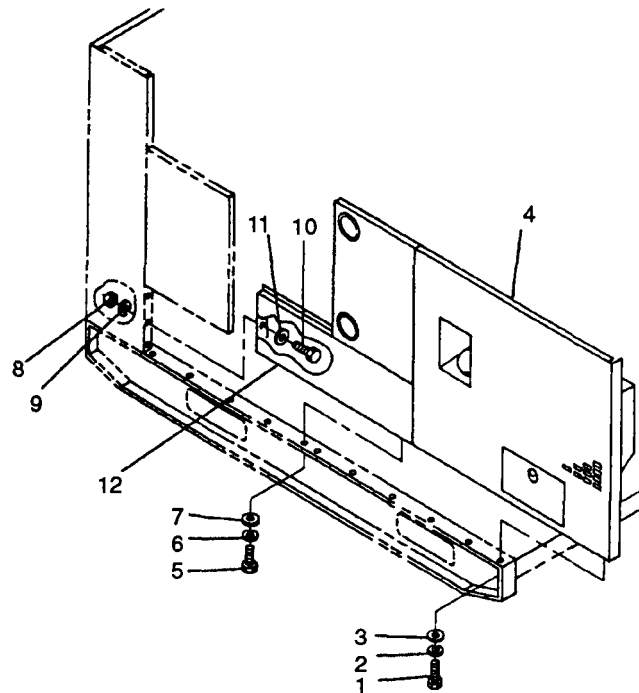
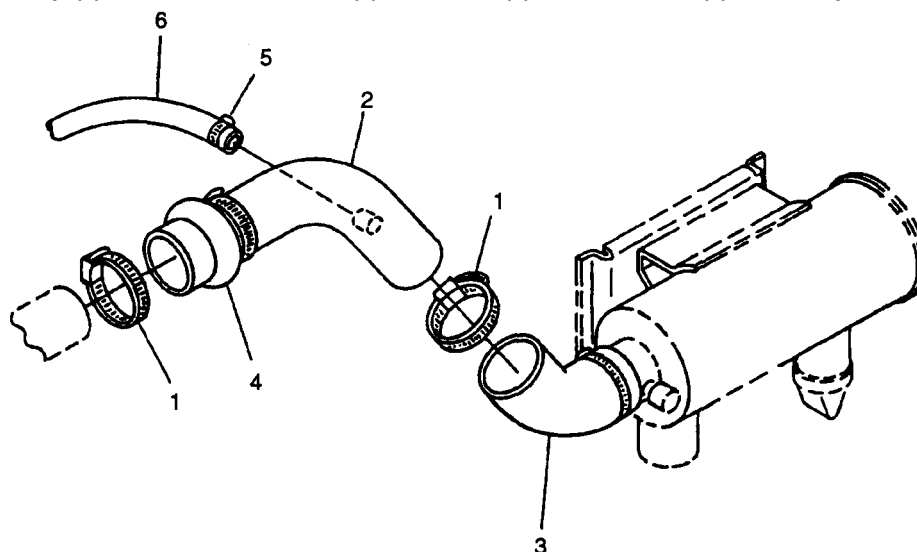
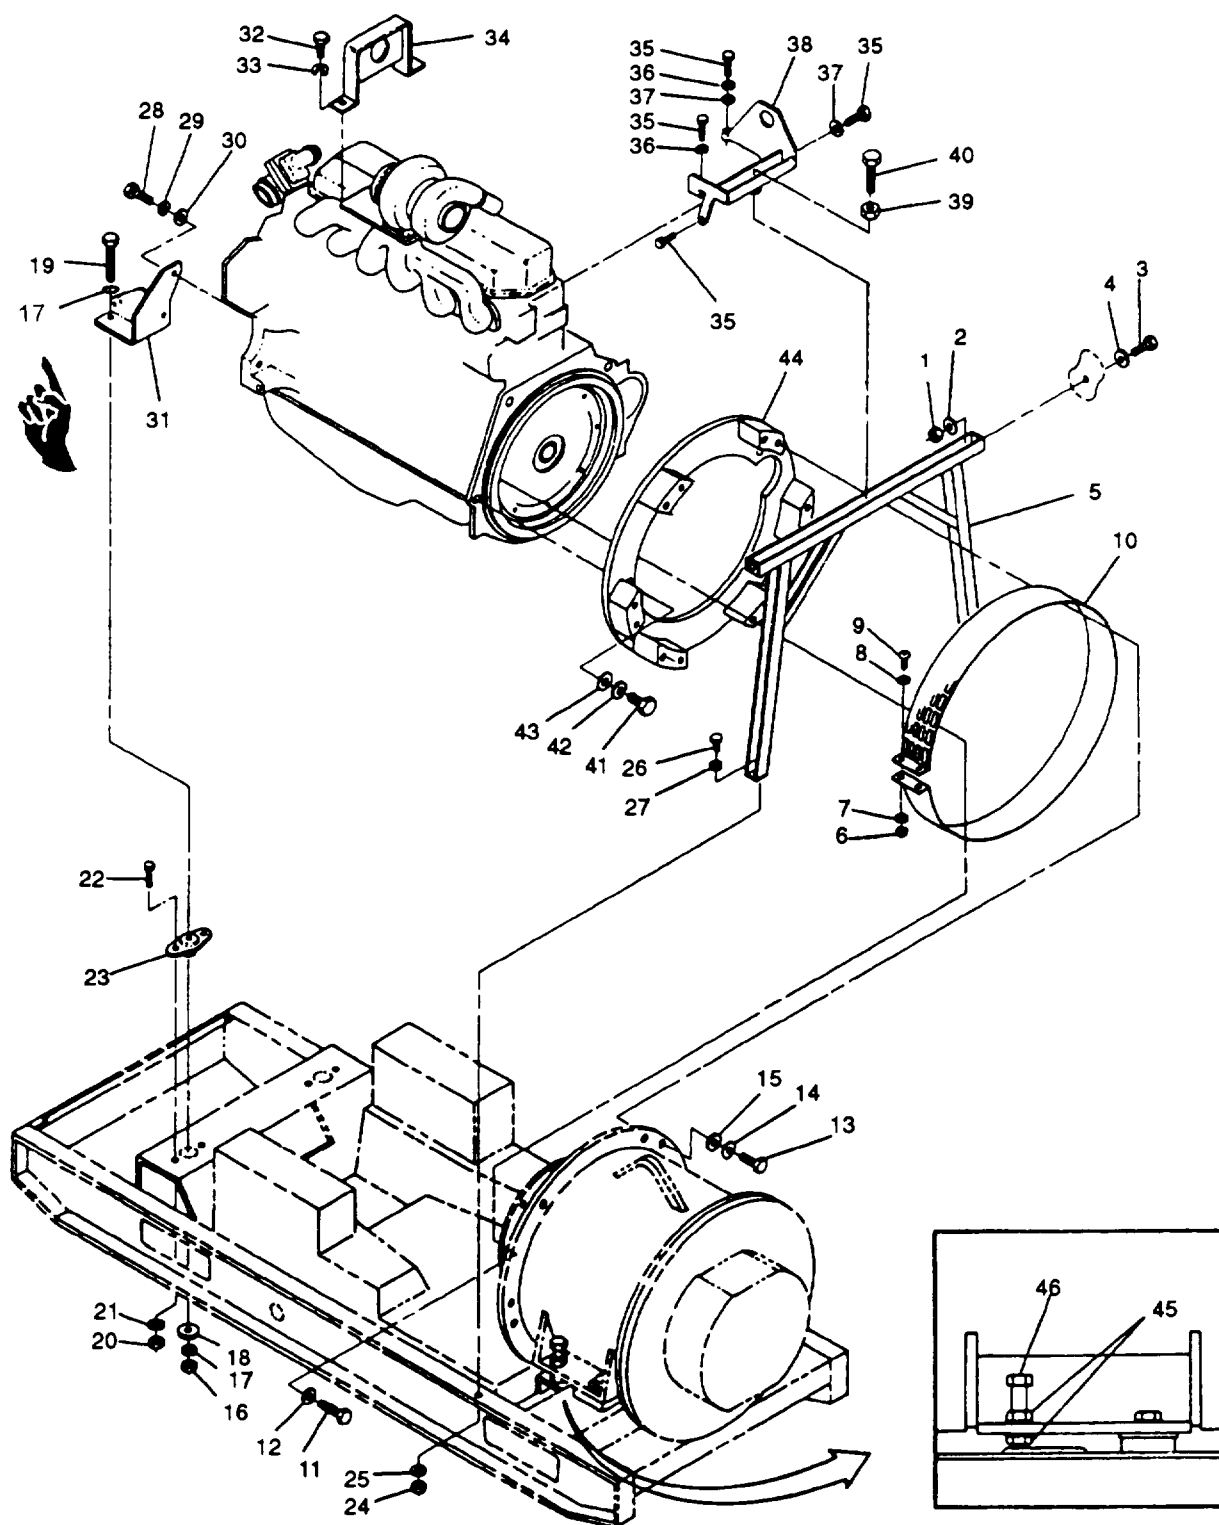

FIGURE 3-8. Left Side Housing Panels
FIGURE 3-9. Air Cleaner Hose and Tube Assembly
FIGURE 3-14. Engine Assembly Removal
- ad. Remove bolts (1, FIGURE 3-8), lockwashers (2), and washers (3) securing left rear side panel (4) to skid base.
- ae. Remove nuts (8), lockwashers (6) and (9), washers (7) and (11), and bolts (5) and (10) securing lower left side panel (12) to front housing and skid base.
- af. Remove nuts (1, FIGURE 3-14), lockwashers (2), bolts (3), and washers (4) securing frame (5) to rear housing side panels. With aid of an assistant, remove left rear side panel (4, FIGURE 3-8) and lower left side panel (12) as an assembly.
- ag. Loosen clamps (1, FIGURE 3-9) securing tube (2) to hose (3) and hump hose (4) to turbocharger.
- ah. Loosen clamp (5) and disconnect hose (6) from tube (2). Remove tube (2) and hump hose (4) as an assembly,
- au. Loosen nuts (45, FIGURE 3-14), turn bolts (46) to contact skid base and tighten nuts (45).
- av. Remove nuts (6), lockwashers (7), screws (8), washers (9), and screen/cover (10) from generator case.
- ax. Remove bolts (11) and washers (12) securing generator drive disc to engine flywheel.
- bb. Remove nuts (16, FIGURE 3-14), washers (17), snubbing washers (18), and bolts (19) securing mount brackets (31) to skid base.
- bc. Remove nuts (1, FIGURE %16), lockwashers (2), bolts (3), shim(s) (4), and radiator mounting bracket (5) from engine mount brackets (6).
- bd. With aid of an assistant, slowly lift engine assembly from skid base, ensuring that engine flywheel housing adapter (44, FIGURE 3-14) separates smoothly from generator without binding. Remove engine from generator set housing and place on engine stand.
- be. Remove nuts (20), lockwashers (21), bolts (22), and shock mounts (23) from skid base.
- bf. Remove nuts (24), lockwashers (25), bolts (26), washers (27), and support frame (5) from skid base.
- bg. Remove bolts (28), lockwashers (29), washers (30), and mount brackets (31) from engine block.
- bh. Remove bolts (32), lockwashers (33), and front engine lifting bracket (34) from engine assembly.
- bi. Remove bolts (35), lockwashers (36), washers (37), and rear engine lifting bracket (38) from engine assembly.
- bj. Remove nut (39) and support bolt (40) from rear engine lift ing bracket (38).
- bk. Remove bolts (41), lockwashers (42), washers (43), and flywheel housing adapter (44) from engine assembly.
- a. Install flywheel housing adapter (44, FIGURE 3-14) on engine assembly with bolts (41), lockwashers (42), and washers (43). Torque bolts (41) to 120 ft-lbs. (163 Nm).
- b. Install support bolt (40) and nut (39) in rear engine support bracket (38). Tighten nut (39) on bottom of bracket (38) so that support bolt (40) protrudes approximately 0.25 inch (6.35 mm) past nut (39).
- c. Install rear engine lifting bracket (38) on engine assembly with bolts (35), lockwashers (36), and washers (37).
- d. Install front engine lifting bracket (34) on engine assembly with bolts (32) and lockwashers (33).
- e. Install mount brackets (31) on engine block with bolts (28), lockwashers (29), and washers (30).
- f. Install shock mounts (23) on skid base with bolts (22), lockwashers (21), and nuts (20).
- g. Install support frame (5) on skid base with bolts (26), washers (27), lockwashers (25), and nuts (24).
- ac. Connect tube (2, FIGURE 3-9) to hose (3), connect hump hose (4) to turbocharger, and tighten clamps (1).
- ad. Connect hose (6) to tube (2) and tighten clamp (5).
- ae. With aid of an assistant, position left rear side housing panel (4, FIGURE 3-8) and lower side panel (12) on generator set.
- af. Secure left rear side panel (4) to skid base with bolts (1), lockwashers (2), and washers (3).
- ag. Secure lower left side panel (12) to front housing and skid base with bolts (5) and (10), washers (7) and (11), lockwashers (6) and (9), and nuts (8).